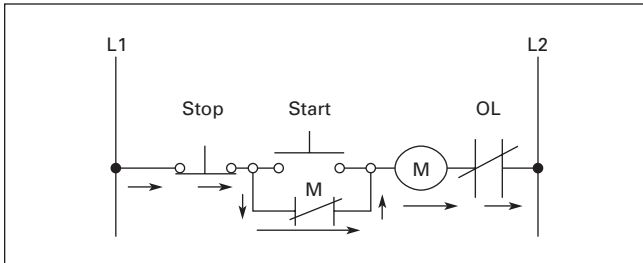

Figure 9. Electrical Path is through Contact M
The electricity flows from L1, through the Stop (NC), through the path completed when contact M closed, to the coil, through the overload relay control circuit, to L2 (**Figure 9**).